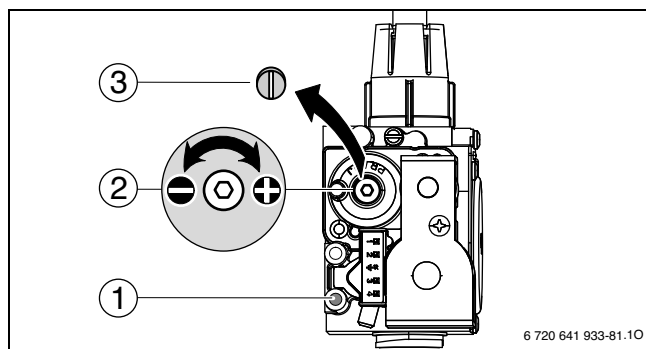
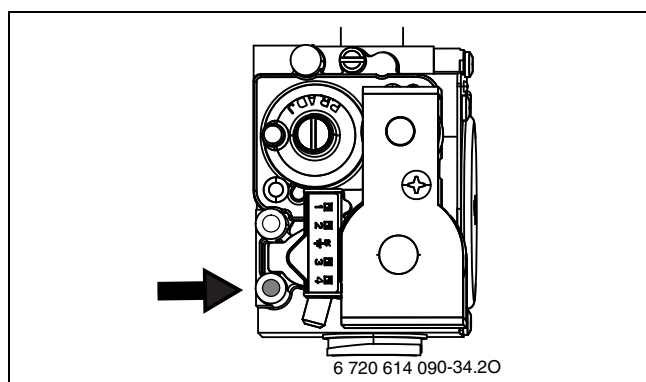

Fig. 78 Set CO₂ or O₂ level for minimum nominal output
Fig. 79 Dynamic gas pressure test port
- ▶ Remove the sealed screw (→ Fig. 78, [3]) from gas valve adjustment screw (→ Fig. 78, [2]) and set CO₂ or O₂ level for minimum nominal output.
- ▶ Reinstall the screw (→ Fig. 78, [3]) to cover the gas valve adjustment screw.
- ▶ Loosen the screw in the test port for gas inlet pressure (→ Fig. 78, [1]) and connect a pressure gauge (→ Fig. 79).